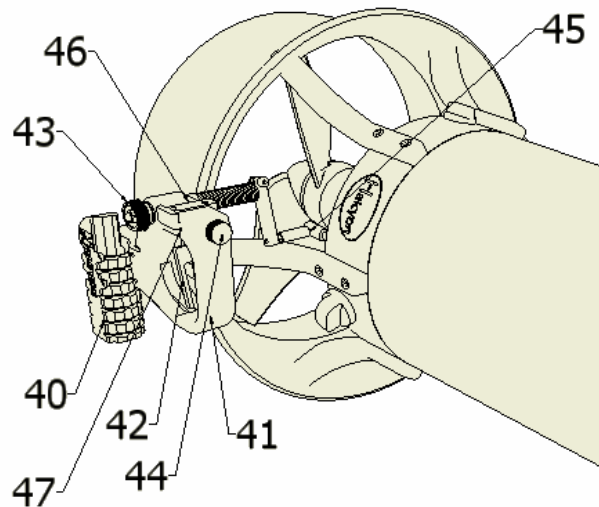
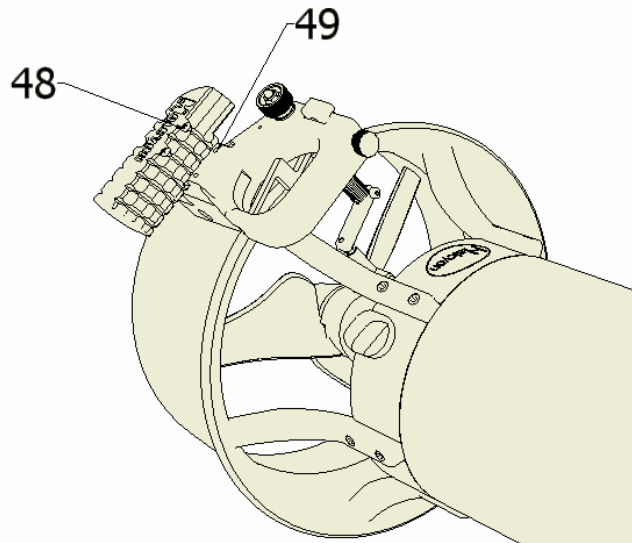

Figure 11
Figure 12
The N-Handle control device (see fig. 11) was created for better HDV manageability in certain conditions.
The knob cruise control (43)(see fig.11), must only be used under the diver's maximum control. **The knob, trigger or HDV ignition switch must be usable at all times to avoid any type of collision or driver dragging risks in hazardous areas.**
- Grasp the device (40) (see fig.11).
- Press the trigger (42) the scooter will run.
To adjust the grasp position (40) (see fig. 11), unscrew the 4 screws (48) (see fig. 12) remove the grasp (40) and reposition it screwing the screws into the selected holes (49). There are three possible positions.
The purpose of the accessory support (46)(see fig 11), is to be able to attach the specific accessories that may be useful during dives on the handle. For this reason, HALCYON has created some supports to be used with normal wrist or console tools.
Loosen the lock screw (44) (see fig.11) and insert the support.